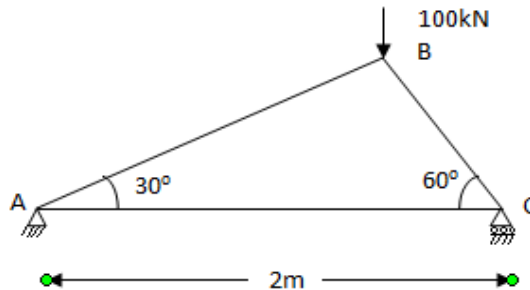

Figure.1
11. (a) Determine the vertical and horizontal deflection of joint C of the truss in Fig.1. Take $E=200 \times 10^6 \text{ kN/m}^2$ and the sectional area of each bar is $100 \times 10^{-6} \text{ m}^2$, using the principles of virtual work. CO1-App (16)